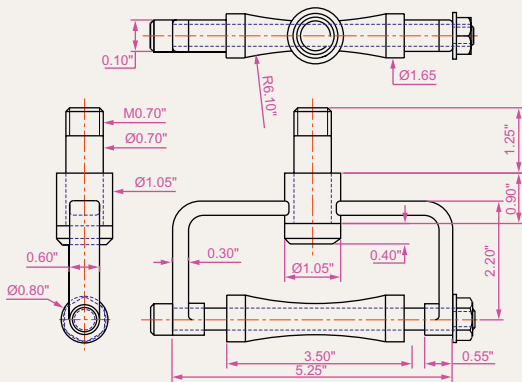
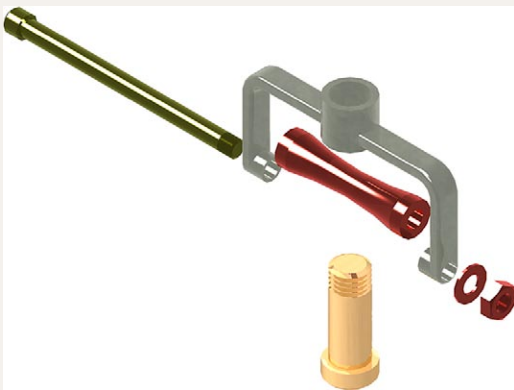

Fig. 18.20 Exercise 1 – orthographic projection
Fig. 18.21 Exercise 1 – rendered 3D model
1. Working to the shapes and dimensions as given in the orthographic projection of Fig. 18.20, construct the exploded 3D model as shown in Fig. 18.21. When the model has been constructed add suitable lighting and apply materials, followed by rendering.